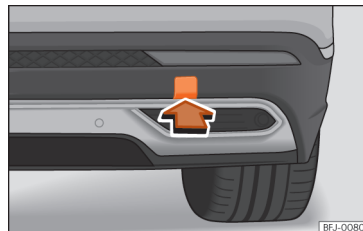

Fig. 226 Rear bumper on right: remove the lid.
The housing of the screw towing eye is on the right side of the rear bumper behind a lid >>> Fig. 226.
- Press the lower side of the lid »» Fig. 226 to unclip it.